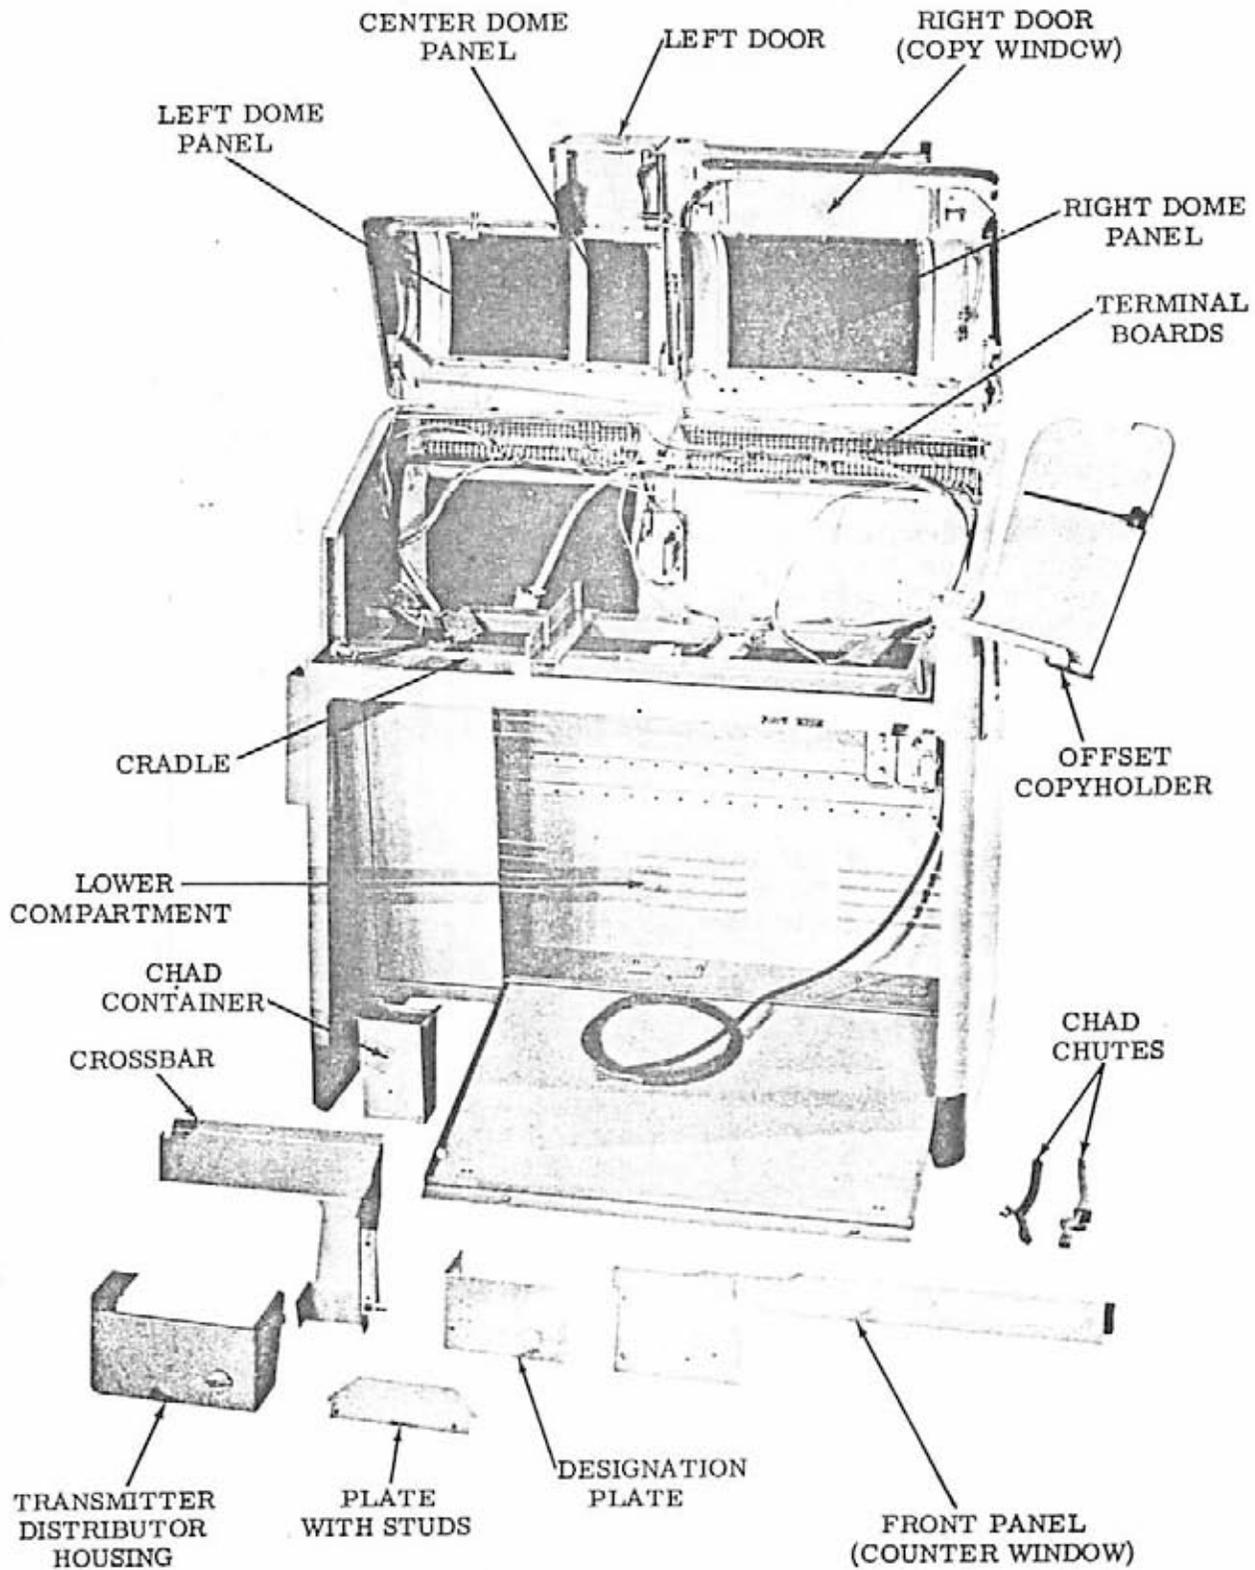

Figure 2 - 28 Teletypewriter Cabinet for Automatic Send-Receive (ASR) Sets (Dome Cover Open)
2.04 Openings in the dome cover provide access to components without raising the entire cover. The right door on the dome cover (Figure 2) provides access to the rear of the